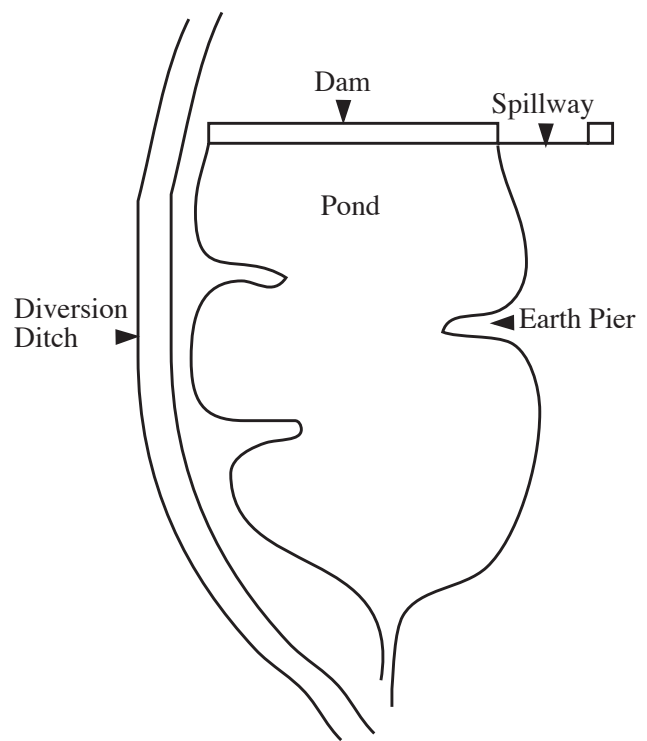

Figure 2
2. The pond bank should have a 2:1 slope to prevent excessive growth of rooted aquatic weeds. Irregular shaped ponds (non-circular) increase angler access (Figure 2). All pond edges and piers should be sodded with a suitable permanent species of grass.